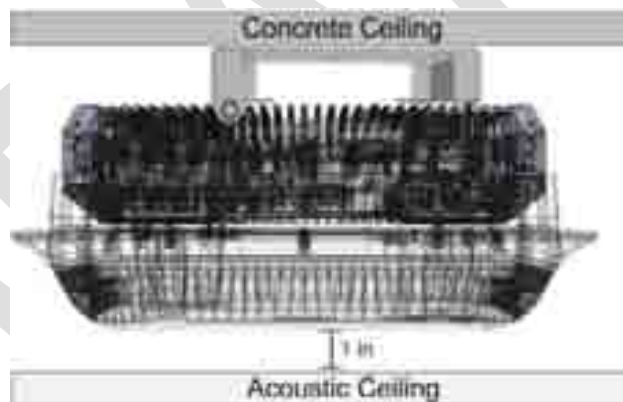

Figure 5-88. Example of (Concrete) Ceiling Installation of Mounting Bracket (RAU5 with External Antenna)
- When mounting the bracket on a wall the captive screw (indicated in Figure 5-88) should always be positioned in the same direction as the RAU5 connectors.